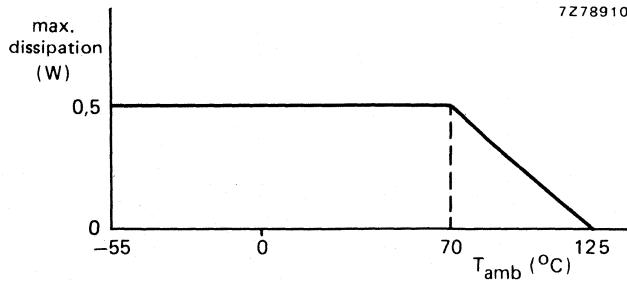

Fig. 5 Maximum dissipation as a function of ambient temperature.
- Maximum dissipation (P_{max}) at 70 °C 0.5 W, see Fig. 5